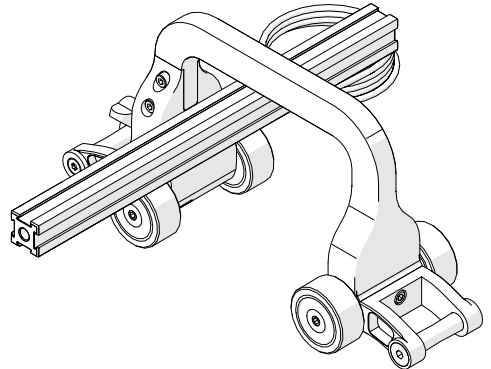

Fig. 75 - Attach frame bar
2. Attach the appropriately sized frame bar (*Fig. 75*) to the reduced width link (see *Attach a Frame Bar* on page 12).